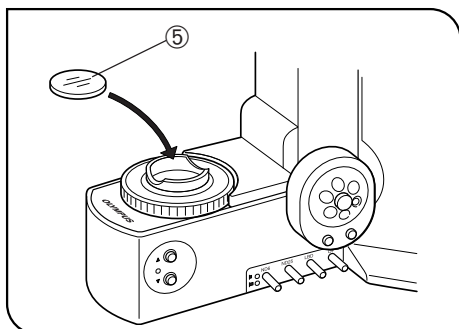

Fig. 7
**Mounting a Single Filter (Fig. 7)**